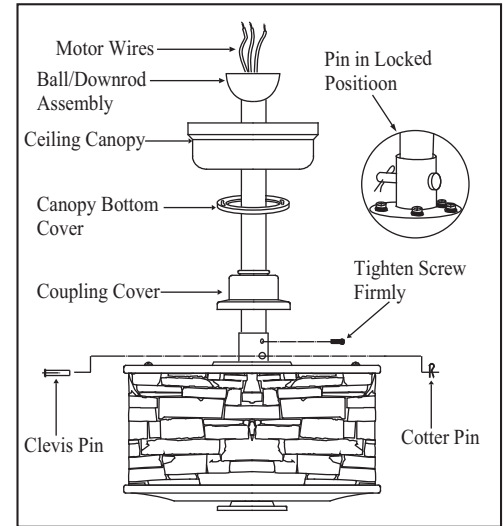

Figure 6
3. Remove the clevis pin, cotter pin and set screws from the top of the motor assembly. (Figure 6)
4. Route wires exiting from the top of the fan motor through the coupling cover, canopy cover, canopy and then through the ball/downrod. (Figure 6)
5. Align the holes at the bottom of the downrod with the holes in the coupling on top of the motor housing. (Figure 6) Carefully insert the clevis pin through the holes in the collar and downrod. Be careful not to jam the clevis pin against the wiring inside the downrod. Insert the cotter pin through the hole near the end of the clevis pin until it snaps into its locked position, as noted in the circle inset of Fig. 6.
6. Tighten two set screws at top of the fan motor collar firmly and evenly. (Fig. 6)